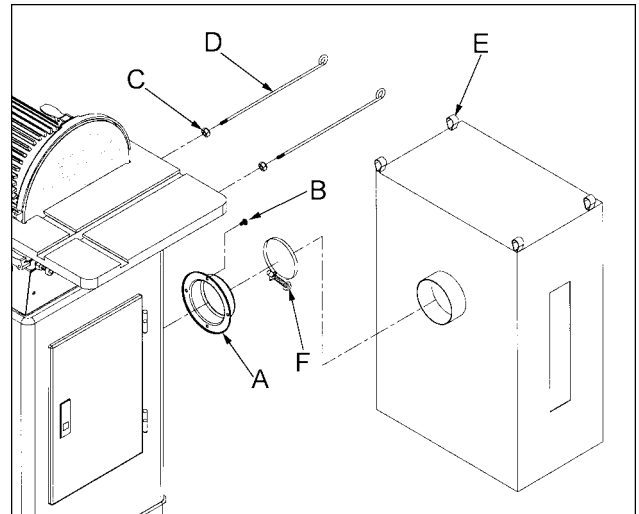

Fig. 4
1. Mount the inlet port (A, Fig. 4) to the cabinet with *four* M6x12 pan head screws (B, Fig. 4).
2. Thread *two* M6 nuts (C, Fig. 4) on the shaft of hanger rods (D, Fig. 4). Thread rods into the cabinet and tighten nuts against the cabinet.
3. Place the loops (E, Fig. 4) of the collector bag onto the hanger rods.
4. Loosen ring clamp (F, Fig. 4) all the way and place on the inlet port. Fit collector bag opening onto inlet port, and secure in place by tightening the ring clamp.